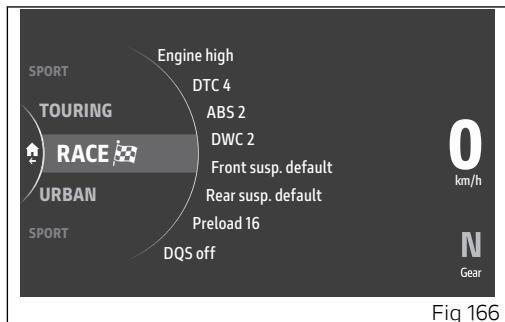

Fig 166
- System opens the specific page (Fig 166) from which it is possible to scroll the available Riding Mode and view their parameters, together with the relevant settings, by means of joystick ▲ ▼.